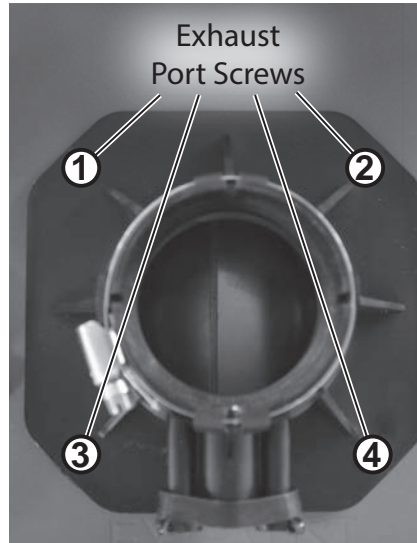

Figure 142 - Remove exhaust port screws
and remove the four (4) screws securing exhaust port to water heater cabinet as shown in Figure 142. Place screws aside in a safe place for reinstallation.